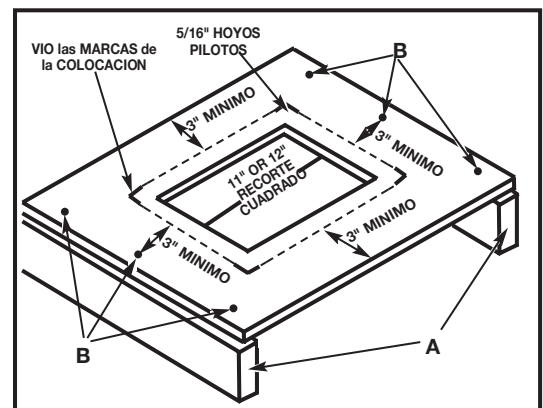

Fig. 4B
You can also construct a simple elevated support, as shown in Fig. 4B.
Set the saw aside and then drill holes in these marks. Locate and mark an 11" or 12" square centered between the four mounting holes. Cut out and remove the square (Fig. 4B). To elevate the supporting surface, measure two 2x4s (A) Fig. 4B to the width of two opposite sides of the supporting surface. Attach the supporting surface to the narrow edges of the 2X4s (as shown in Fig. 4B) using wood screws (not provided) in at least three spots (B) Fig. 4B on each side.
Square the saw on the supporting surface and mark the location for four 5/16 inch holes to be drilled (Fig. 4B).